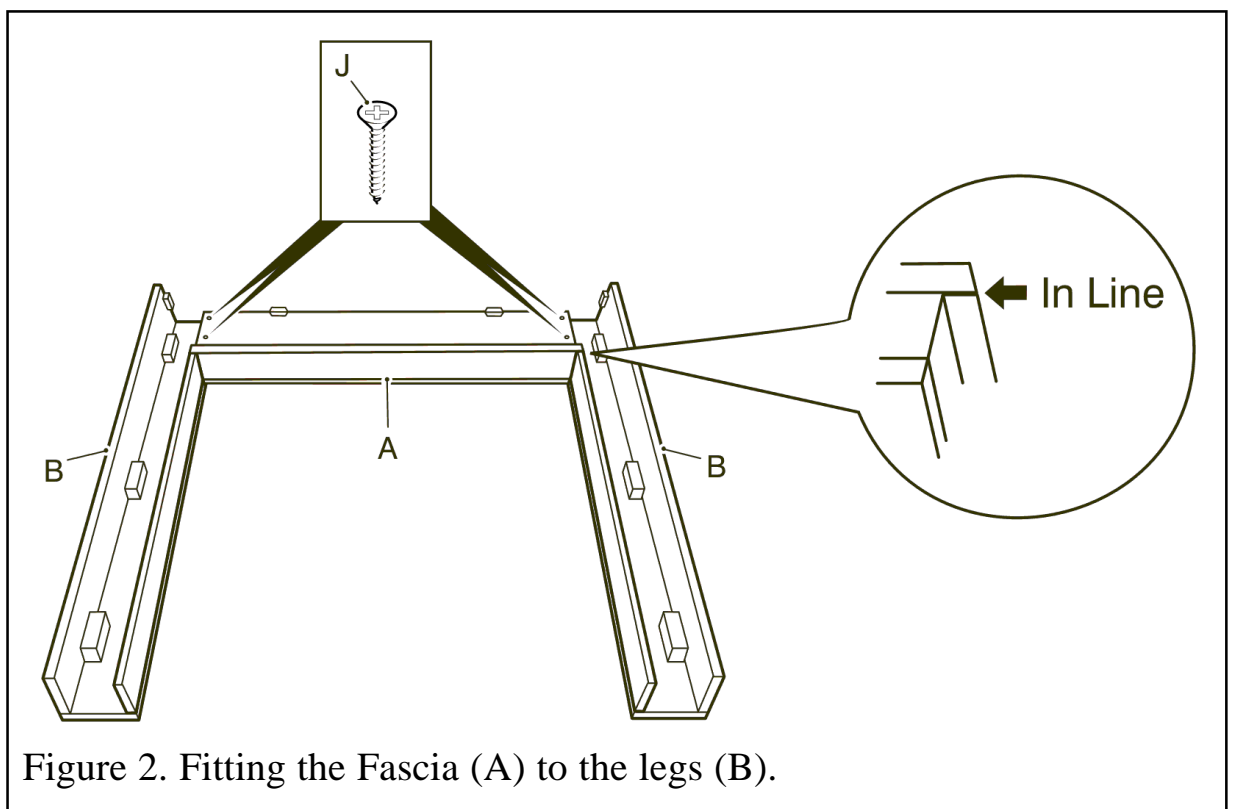

Figure 2. Fitting the Fascia (A) to the legs (B).
- Lay the legs (B) onto a smooth, flat, clean surface with the inside facing upward as shown in figure 2. Place fascia (A) as in figure 2. The rail screwed to the bottom of the fascia should be level with the side rails of the legs. The plastic blocks should be at the top of the surround.
- Secure using four (J) screws.